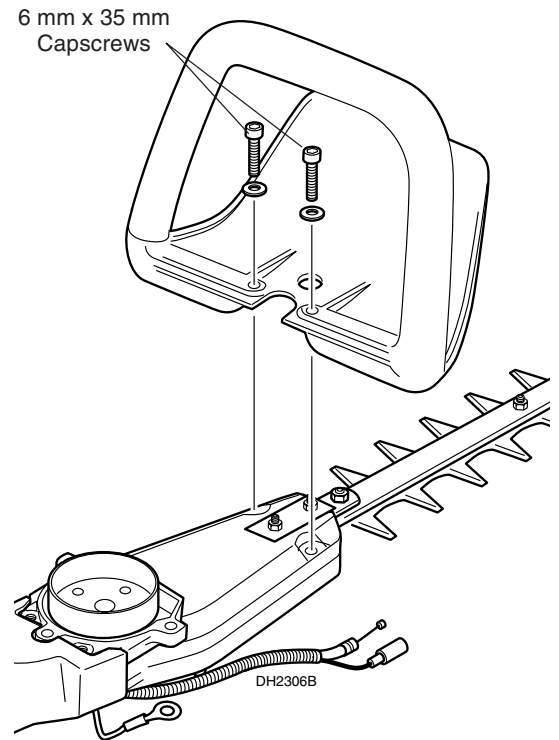

Figure 31. Removing the Front Handle and Shield.
STEP 1. Remove the two 6 mm x 35 mm socket head capscrews securing the front handle (Figure 31).